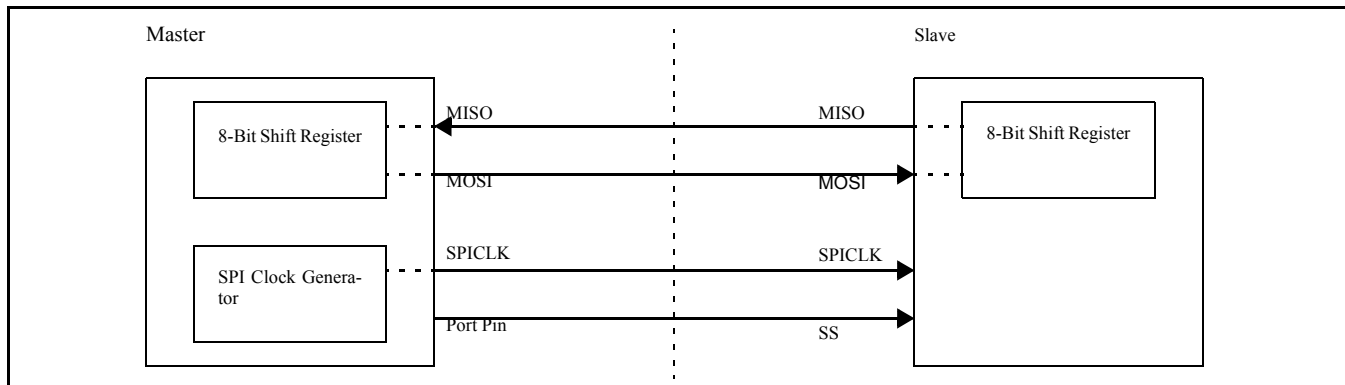
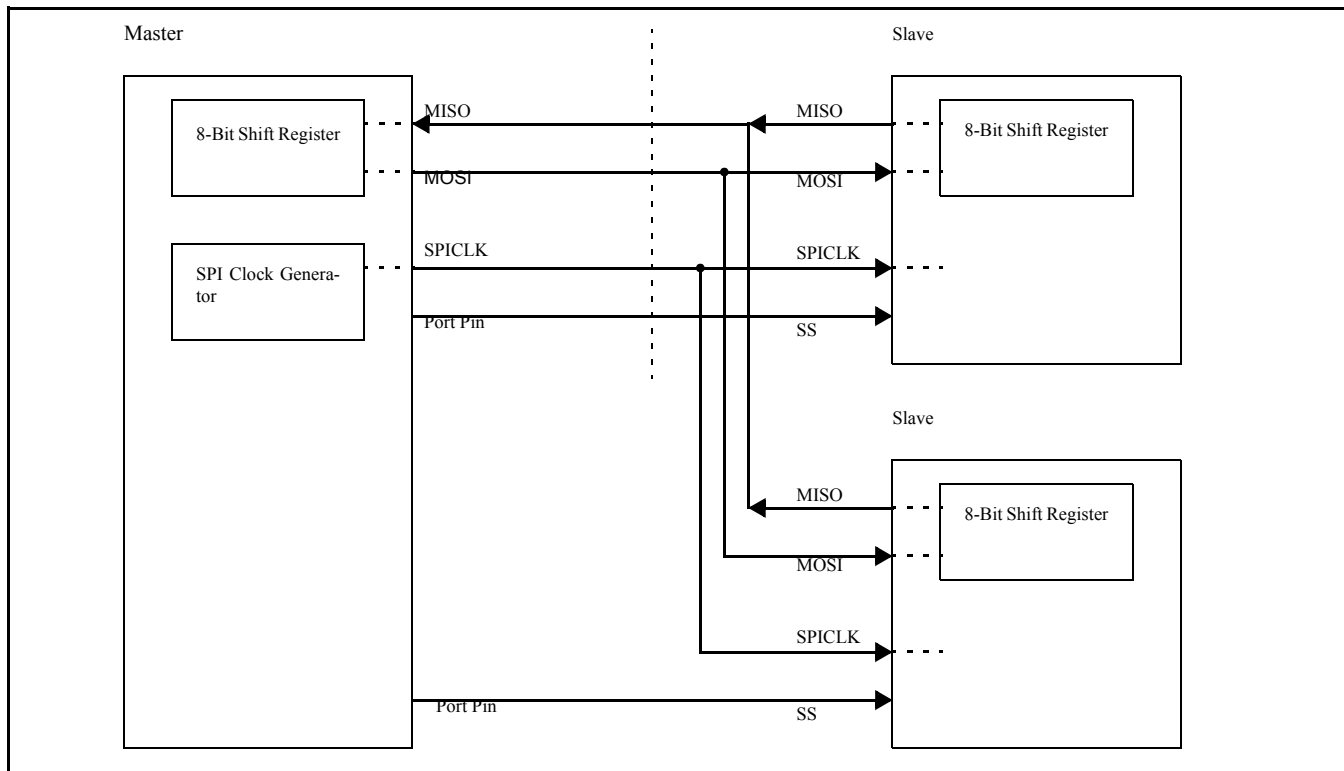

Figure 9-5: SPI single master single slave configuration
Figure 9-7: SPI single master multiple slaves configuration
Typical connections are shown in Figures 9-5 - 9-7.
- The 89LPC913 does not have the slave select pin, \overline{SS} . The SPI interface is set to Master mode and an I/O pin may be used to implement the SS function. Typical connections are shown in Figure 9-5 and Figure 9-7.
In Figure 9-5, SSIG (SPCTL.7) for the slave is '0', and \overline{SS} is used to select the slave. The SPI master can use any port pin (including P2.4/ \overline{SS}) to drive the SS pin.
In Figure 9-7, SSIG (SPCTL.7) bits for the slaves are '0', and the slaves are selected by the corresponding \overline{SS} signals. The SPI master can use any port pin (including P2.4/ \overline{SS}) to drive the \overline{SS} pins.